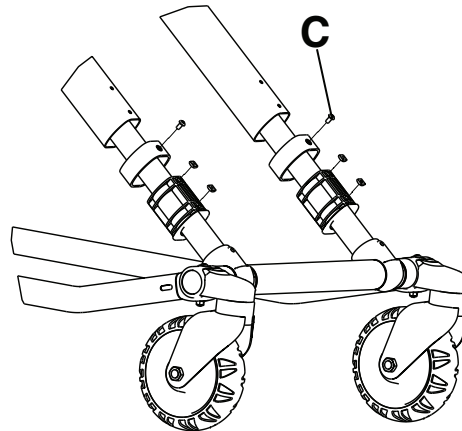

Figure 14 – Remove the button head cap screws
3. Using a T25 Torx driver, remove the two button head cap screws (C) that secure the tube bearing (Figure 14). Save the screws.
2. Using a T25 Torx driver, remove the two button head cap screws that secure the tube bearing (Figure 14). Save the screws.